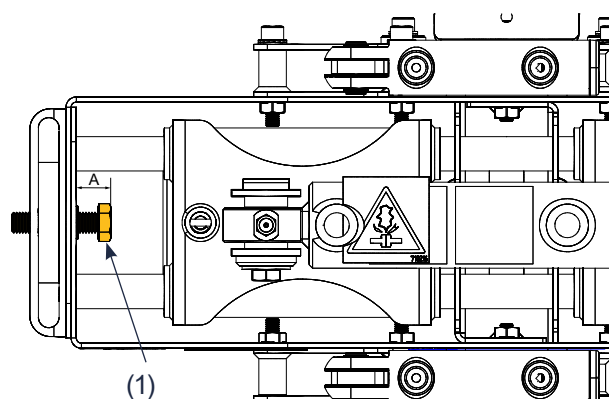

Fig 46.
2. Adjust with the stop screw (1) Fig 46 on each side